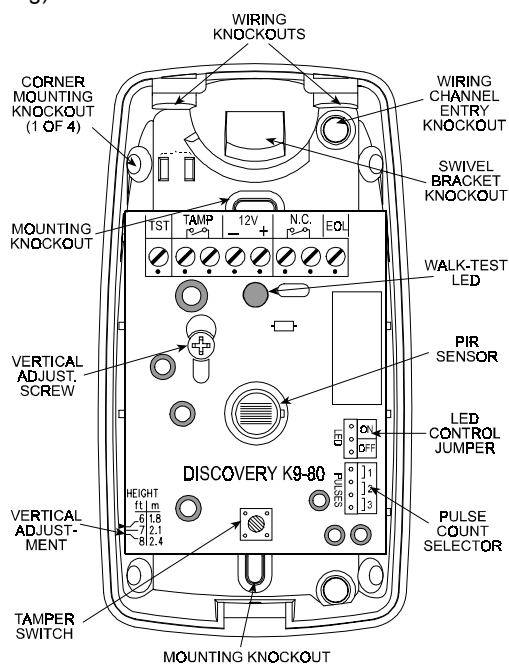
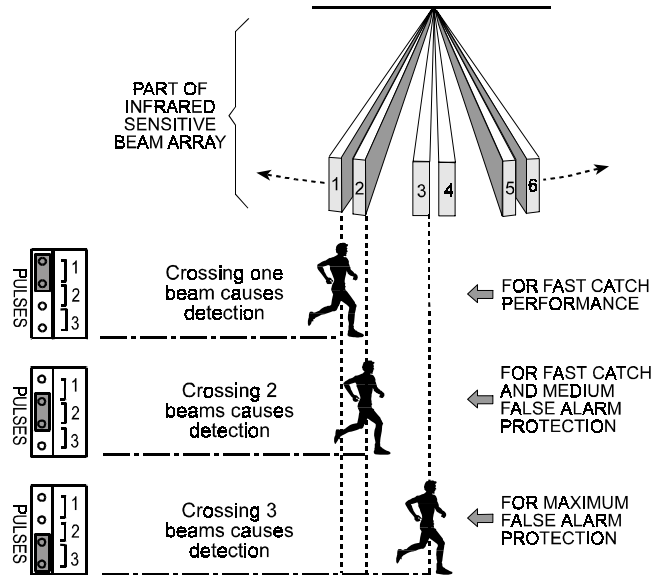

Figure 5. Inside View
Figure 12. Pulse Counter Setting Options
D. Refer to Figure 5 and punch out the mounting knockouts at the rear wall of the base (for surface mounting) or mounting knockouts at the angled sides of the base (for corner mounting).
- E. Punch out any one of the wiring knockouts shown in Figure 5.
The location of the pulse count selector is indicated in Figure 5. Refer to Figure 12 below and mount the jumper as desired. For proper operation, the pulse count jumper must be installed across two pins at all times. It should never hang on one pin, or be completely removed. The factory default setting is **2 pulses**.